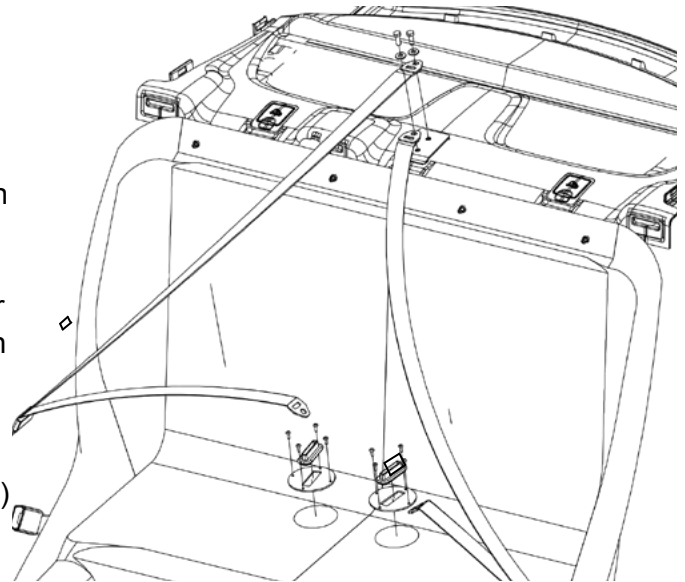

Fig. 8
- A. Now install the (3OSB003) seat belt harness on the driver and passenger sides. Position the seat belts so the adjustment strap goes over the chest. Fasten the two seat belts at the top with the single 3/8" (3X131) bolt off the rear deck. Feed the seat belt rubber grommets and covers onto each of the lower portion of the belts and fasten at the bottom through the seat holes using the OEM threaded studs and nuts. Slide the black plastic covers and rubber grommets over top of the holes in the seat and use the 4 (3X72) screws to secure in place. (See Fig. 8)